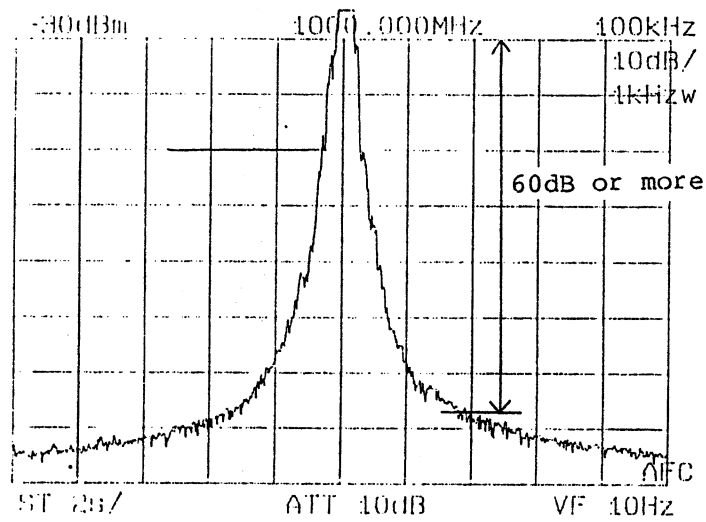

Figure 11-11 Noise Sidebands Measurement
- ⑥ Set the reference level to  $-30$  dBm and the video filter to  $10$  Hz.
- ⑦ Measure the noise sidebands at the position which is 2 divisions (20 kHz) from the center of the display screen. Check that the noise sidebands is lower than the reference level by  $60$  dB or more as shown in Figure 11-11.